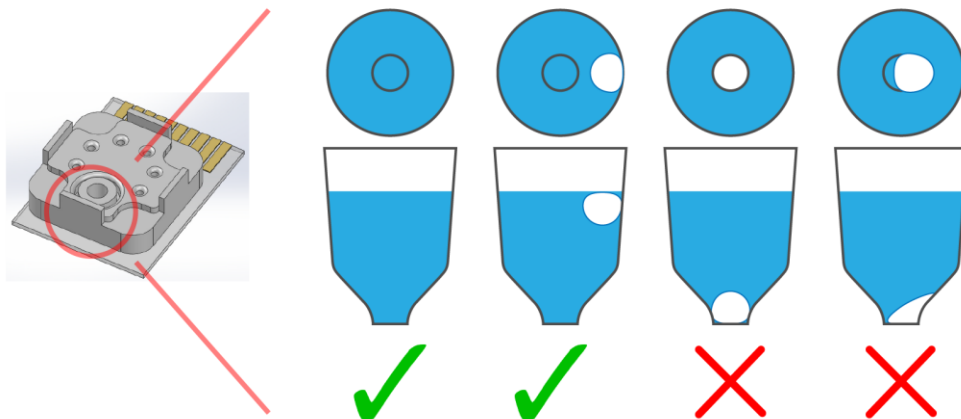

Figure 2. Any air bubbles in the analyte must not occlude the bottom of the reservoir.
- Ensure that any air bubbles in the sample are acceptably positioned in the reservoir (see Figure 2).